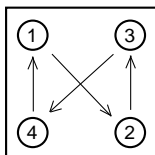

Figure 2.4 Sequence of Screw Tightening
- Screw the cable head to the socket with the screws provided. Progressively tighten the screws in the sequence shown in figure 2.4 until all are 'finger tight'.